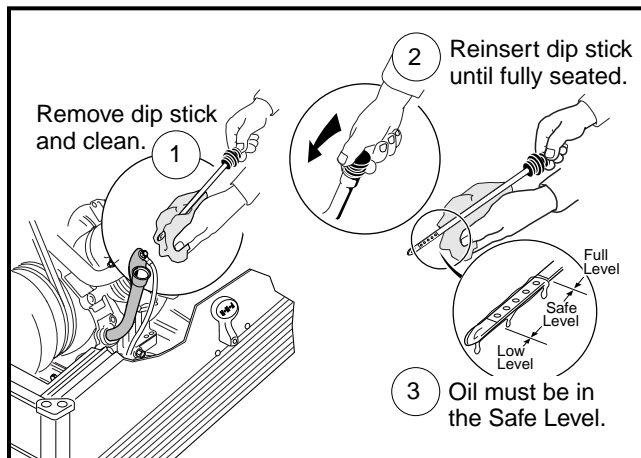

Figure 13-108 Check Engine Oil Level
14. Check engine oil level (**Figure 13-108, Page 13-49**).